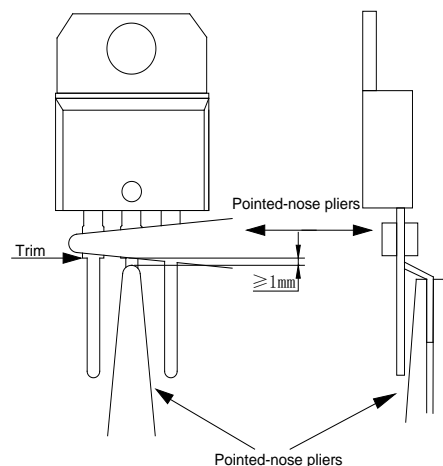

Fig. 2 Lead forming with pliers
- Special forming fixture and equipment with stress less than 9.8N shall be used. Alternatively, use two slender flat-nose pliers to do the lead forming. Use one pair of pliers to clamp the lead between the bend on the lead and the device body, and then use another pair of pliers to clamp the remaining part of the lead for bending, as shown in Figure 2.